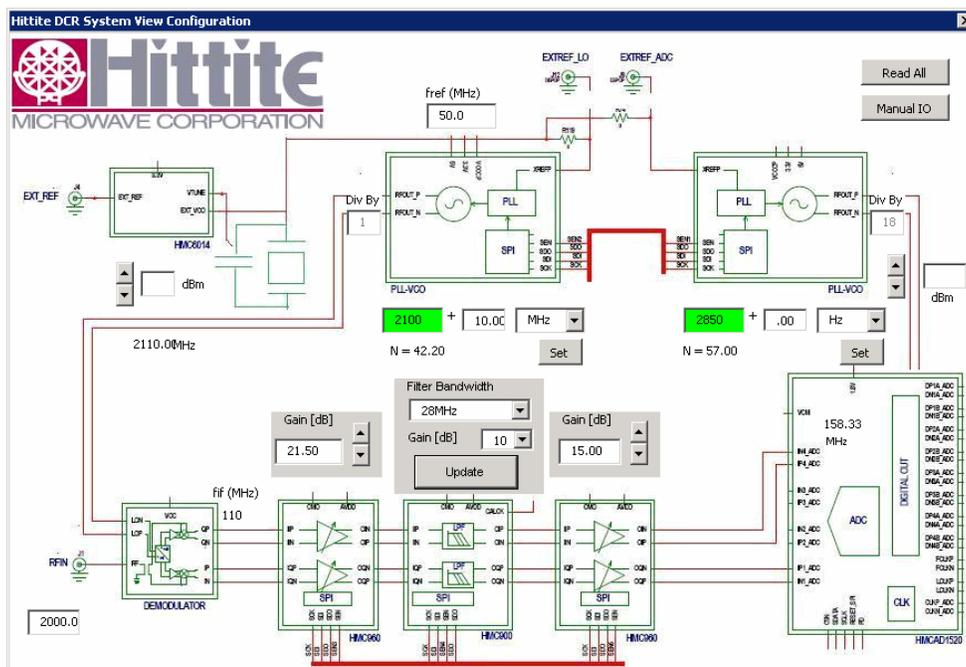
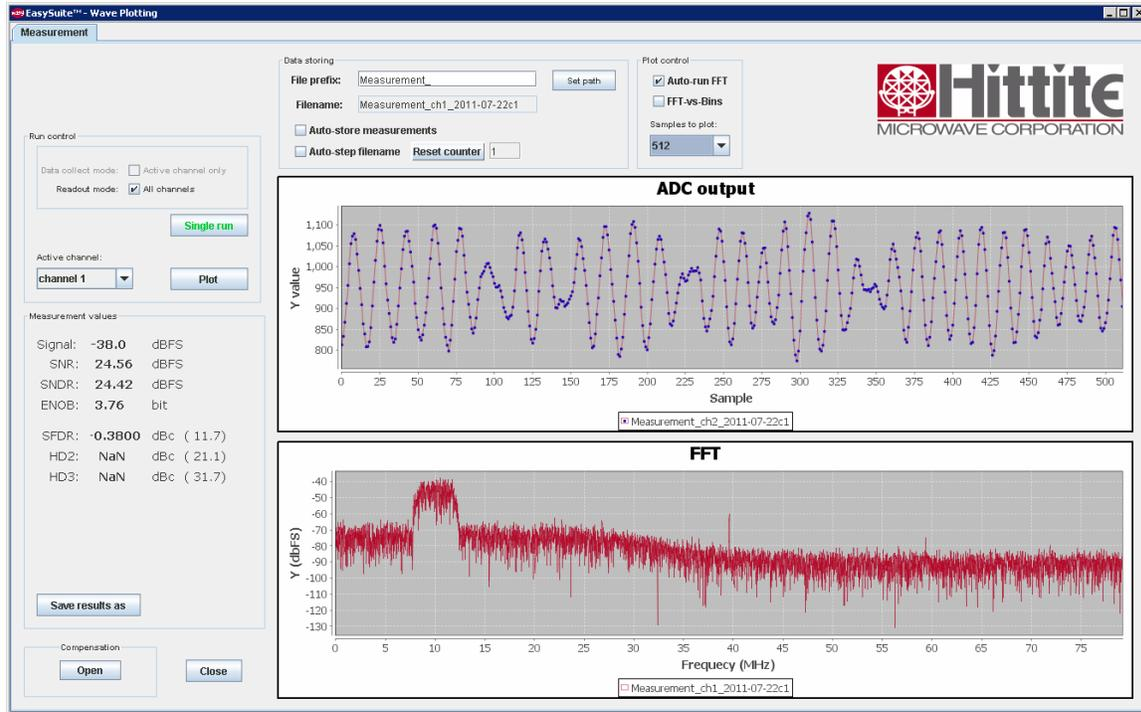

Figure 26.DCR System View Configuration dialog showing addition of 5 dB of more gain in the second VGA
Figure 27. Observed result as a consequence of adding 15 dB of gain in the second VGA
16. Applying 5 dB of further gain in the DCR as shown in Figure 26 results in observations in Figure 27.
17. As shown in Figure 27 in the time domain plot the ADC DC offset has moved further down to around 950. The ADC lower range is near 750. Clearly the ADC DC offset is moving closer to the lower limit. ‘Samples to plot’ setting in Figure 27 has been reduced in order to observe time domain signal more closely.